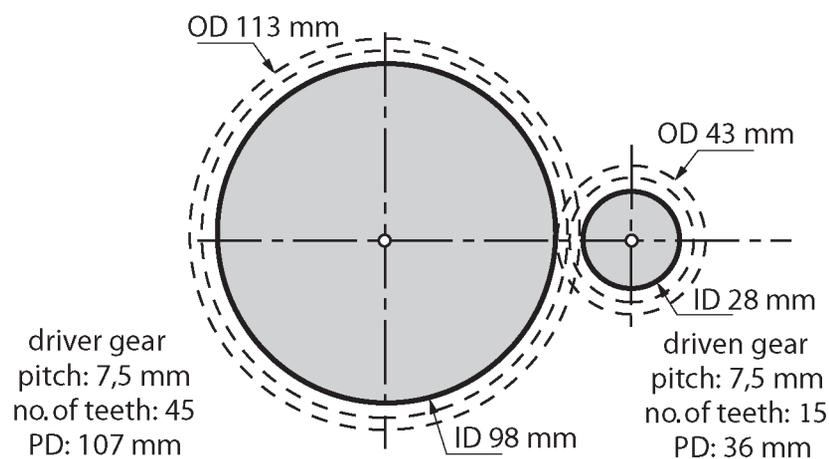

Figure 11: (This drawing is not drawn to scale.)
1. Draw the gear system shown in Figure 11, to a scale of 1:1. The driver gear has 45 teeth and a pitch circle diameter of 107 mm. The driven gear has 15 teeth and a pitch circle diameter of 36 mm. Draw your gear system on grid paper.